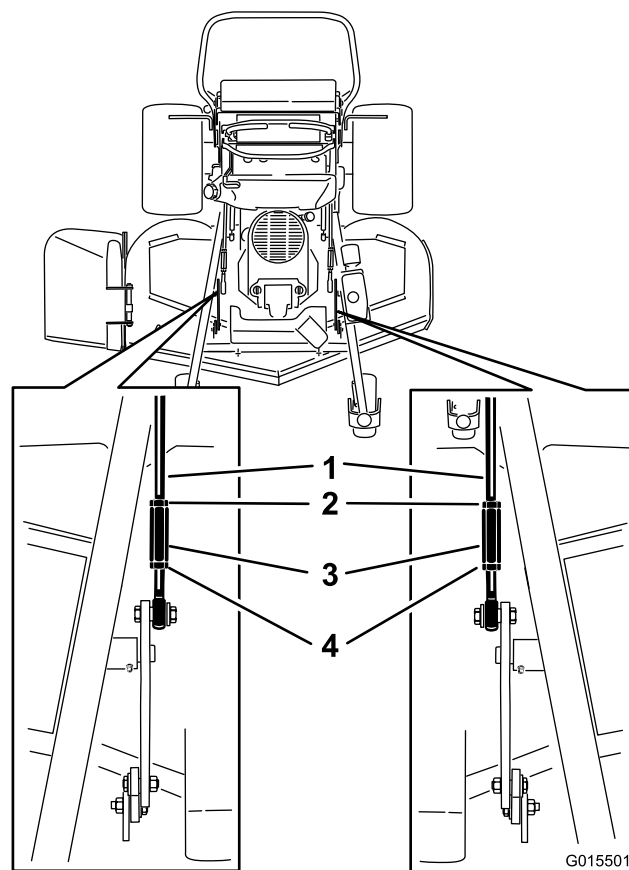

Figure 94
2. Loosen both the front and rear nuts and lift links on the adjustment rods (Figure 94).
4. Tighten the lift links (Figure 94).
7. If the dimensions are not correct, adjust the front and rear nuts on either side to get the correct front-to-rear pitch (Figure 94).